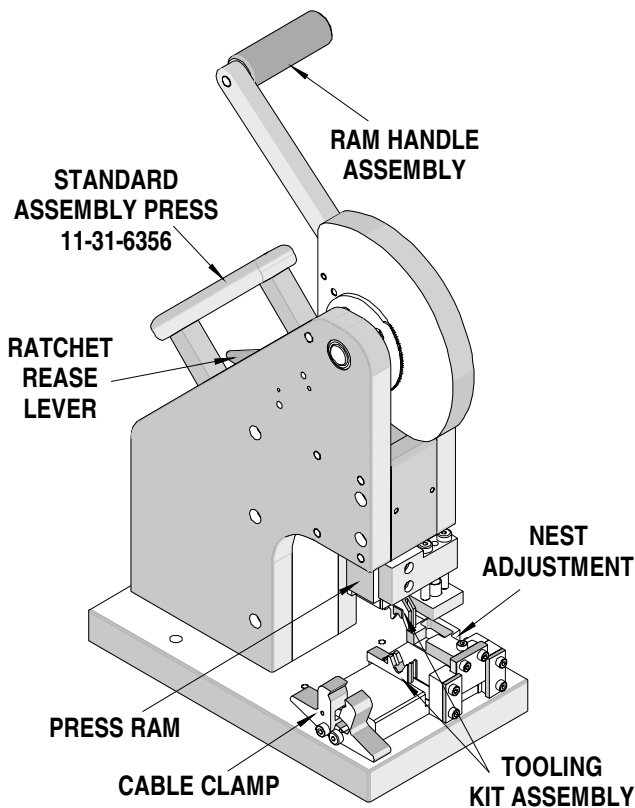

Figure 2-1
The Molex Standard Assembly Press 11-31-6356 (AM60026-50) comes with the Tool Kit already installed. See Figure 2-1. If the 62202-0100 Tooling Kit is not installed in the Press, follow the steps below:
6. Mount the lower tooling assembly on the press base plate by sliding it under the two (2) spring loaded screws on the press base. Do not tighten the screws at this time. See Figure 2-1.
10. To secure the press, use a bench capable of supporting at least 150 pounds, with adequate lighting for easy operation. There are two (2) holes for 5/16" screws provided in the press base for fastening the press to the workbench.